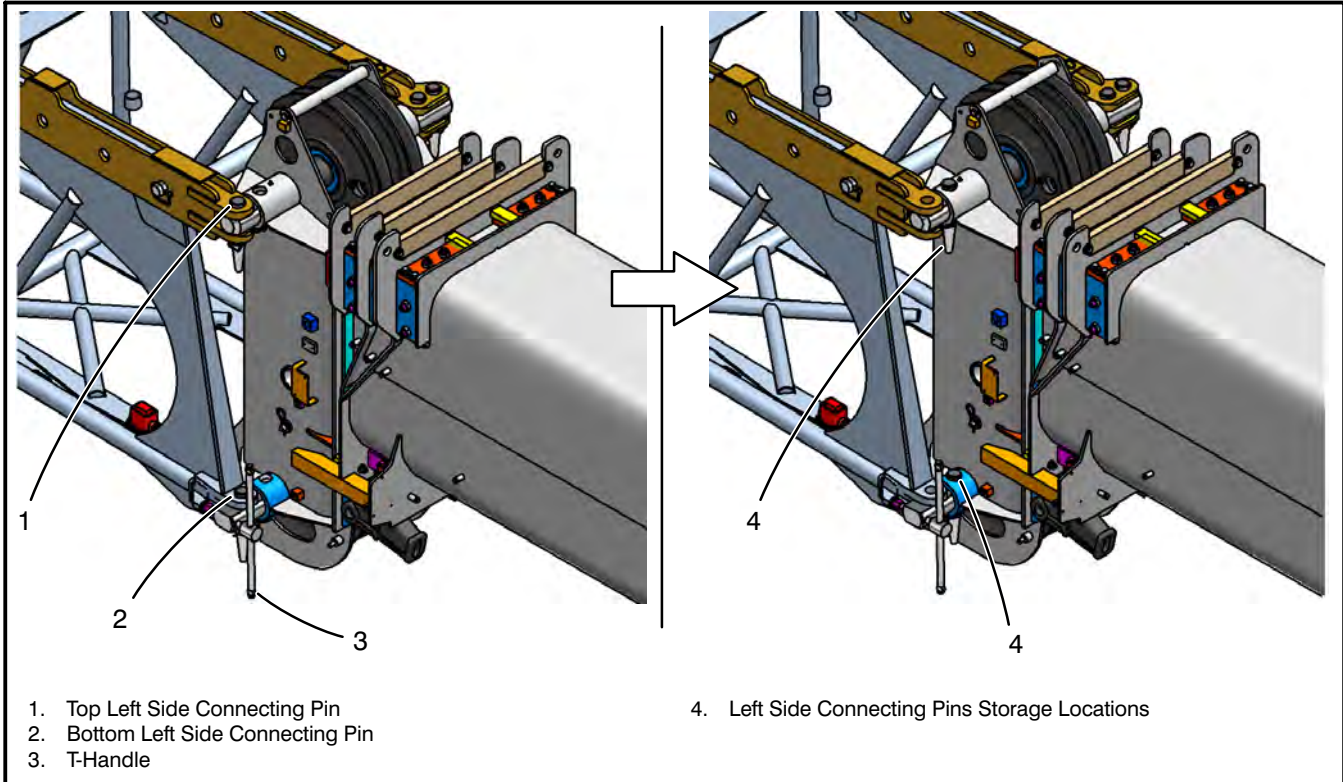

Figure 4-69
11. Remove the bottom left fly base connecting pin on the left side of the fly using the t-handle to assist in relieving the load on the pin. Refer to Figure 4-69. Back off the t-handle until at least a 1/2 in (1.3cm) clearance from the fly lug is obtained. Remove the top left fly base connecting pin. Store connecting pins in the storage holes on the boom head machinery cross shafts on the left side of the boom.